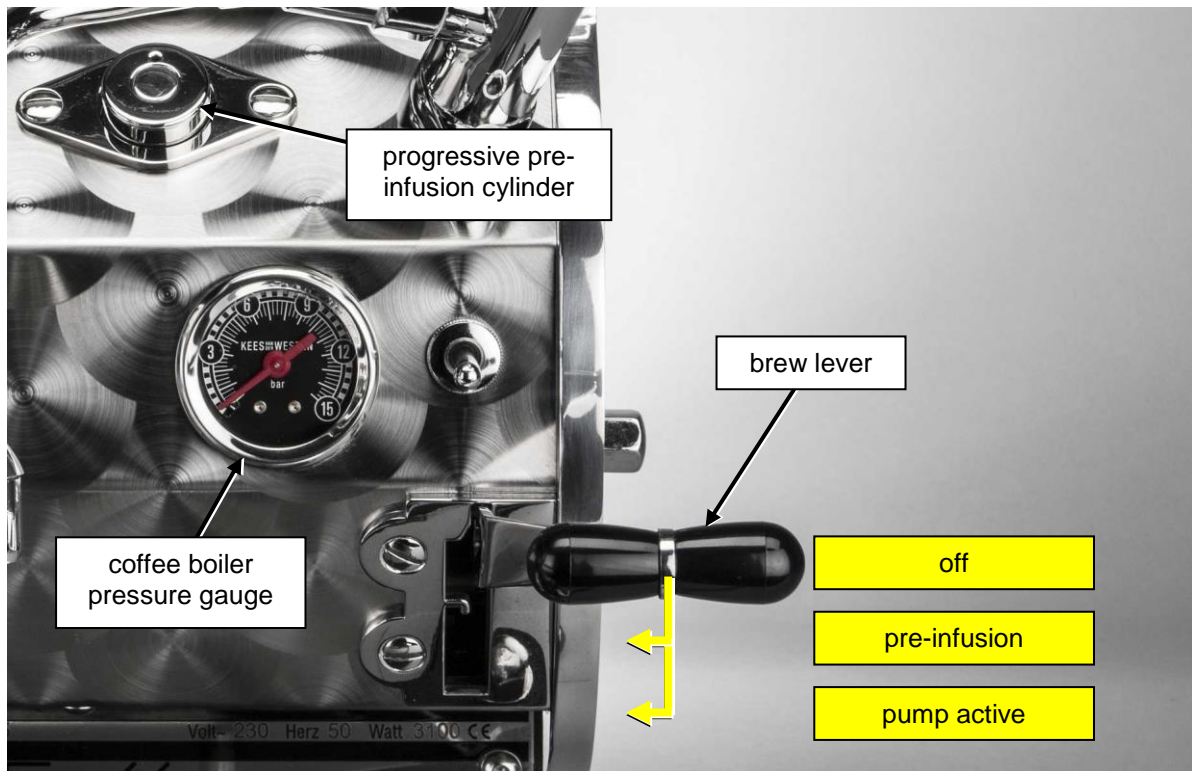

Figure U 1. Brewing espresso: brew lever, lever positions, brew pressure (coffee boiler pressure) gauge and progressive pre-infusion cylinder.
5. Put the 3-way brewing lever on the right hand side of the machine (*Figure W 1*, item 4) in the lowest position (*Figure U 1* "pump active").
The 3-way brewing lever on the right hand side of the machine (see *Figure U 1*) operates the group valve and the pump. The lever can be fixed in 2 slots and thus has three operating positions:
When you switch from resting position directly to the lower position, the primary increasing pressure is still absorbed by a piston and spring within the so-called “progressive pre-infusion cylinder” up to approximately 1.5 bar. As soon as the piston reaches its ultimate position, the full pump pressure of 9 bar is slowly applied to the coffee bed. You can easily check the functioning of the progressive pre-infusion as the guiding rod of the piston will protrude through an opening in the front panel of the machine just left of the hot water tap (see *Figure U 1*).